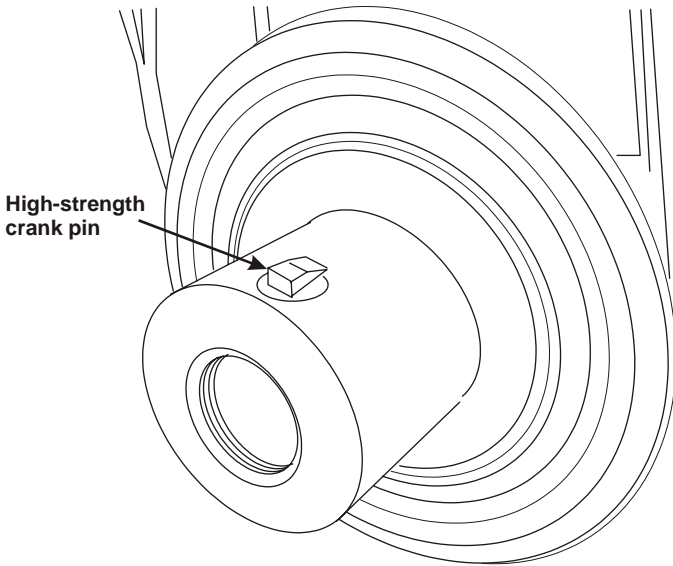

Figure 1.1
- Install the replacement crankshaft/harmonic balancer locating pin and tap it home using a brass drift and a small hammer. Ensure that the head of the pin is aligned with the crankshaft. You may have to twist it into position (Figure 1.1).